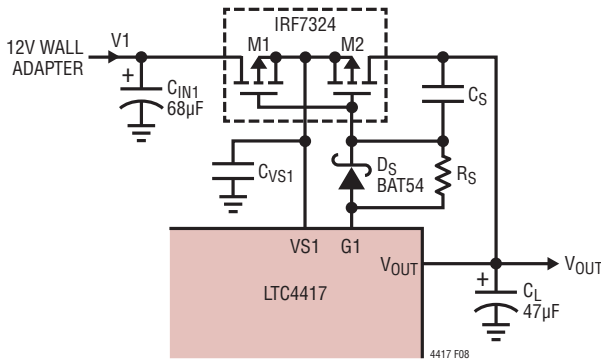

Figure 8. Slow Rate Limiting Gate Drive
Equation (13) assumes no inrush current limiting circuitry is required. If it is required, refer to Figure 8 and use the following Equation (14) for CL.
where  $R_S$  and  $C_S$  are component values shown in Figure 8. The selection of  $R_S$  and  $C_L$  involves an iterative process. Begin by assuming  $0.79 \cdot R_S \cdot C_S = 10\mu\text{s}$  and choosing  $C_L$  using Equation (14). See the Inrush Current and Input Voltage Droop section for more details regarding inrush current limiting circuitry, and for selecting  $R_S$ .
In situations where input and output capacitances cannot be chosen to set the desired maximum input voltage droop, or the peak inrush current violates the maximum Pulsed Drain Current ( $I_{\text{DM}}$ ) of the external P-channel MOSFETs, inrush current can be limited by slew rate limiting the output voltage. The gate driver can be configured to slew rate limit the output with a resistor, capacitor and Schottky diode, as shown in Figure 8. The series resistor  $R_S$  and capacitor,  $C_S$ , slew rate limit the output, while the Schottky diode,  $D_S$ , provides a fast turn off path when G1 is pulled to VS1.